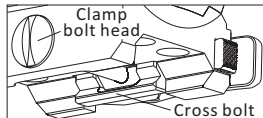

Fig 3-2
1) There is one Torx socket at the end of clamp adjusting bolt on the side of the mount. (See Fig 3-2) Before installation,